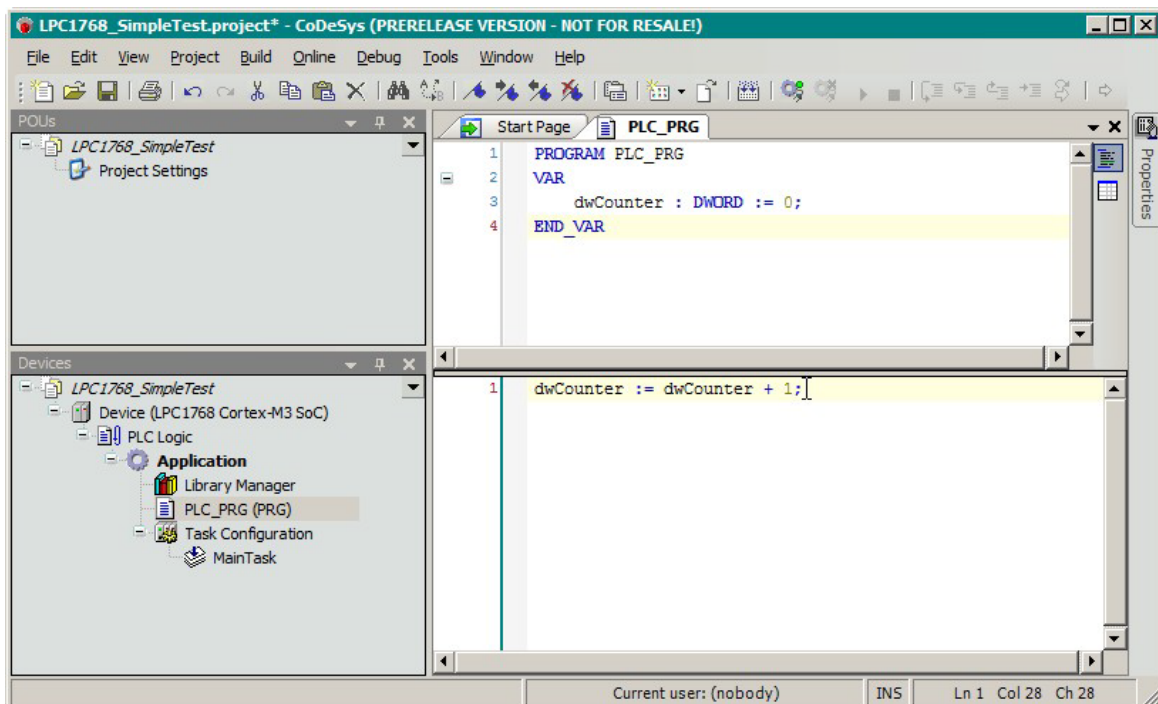

Figure 7. Simple test program
5. In the POU code pane, type in the expression that increments *dwCounter* at each cycle of the *PLC\_PRG* execution as shown in Figure 7.